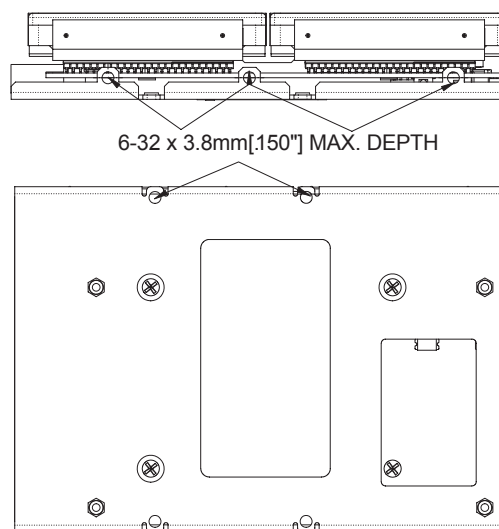

Figure 6 Mounting Holes
Refer to Figure 6 on page 5 for mounting hole locations.
7. Mount the I35MB into the appropriate disk drive bay, using screws to secure the I35MB in the chassis. See Figure 6 for mounting holes, screw size and maximum depth.